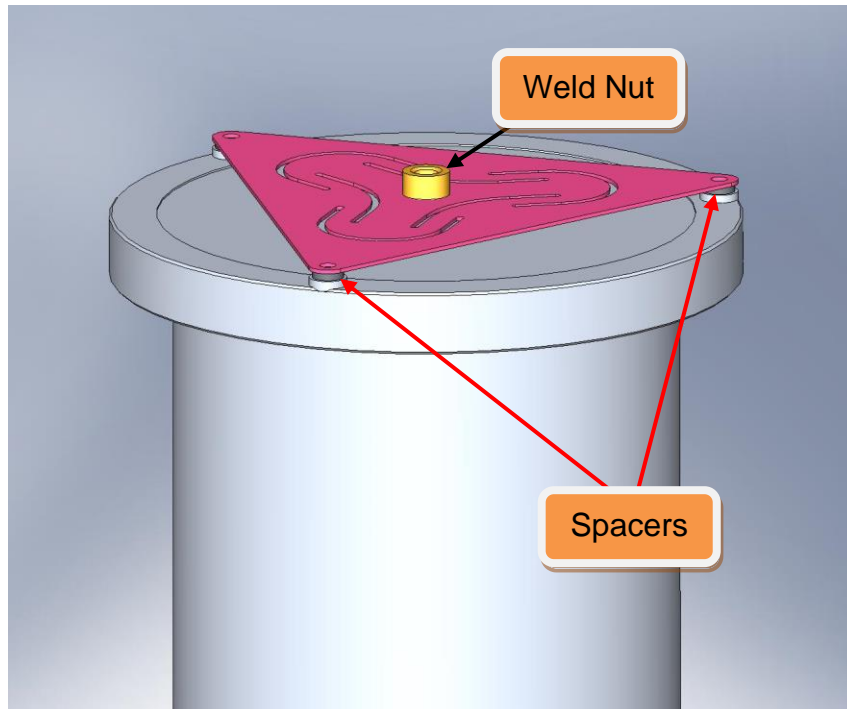

Figure 4.50. Stabilizer Assembly resting on back end of GS-13 Pod.
- **Warning:** If using **A+ cables** (D1000227-v11) for the GS-13, the top of the weld nut on this stabilizer assembly (shown in **Figure 4.50**) will interfere with the walls when installing the GS-13 on the ISI. Instead, **do not install the (x3) 1/8" spacers between the pod and the Stabilizer**. Then, once the pod is installed on the ISI (after step in **Figure 4.128**), add one 1/8" thick spacer (or a few washers) between the weld nut and the wall to fill the gap using a long tweezer to hold the spacer in place. More details in sei log 1765.